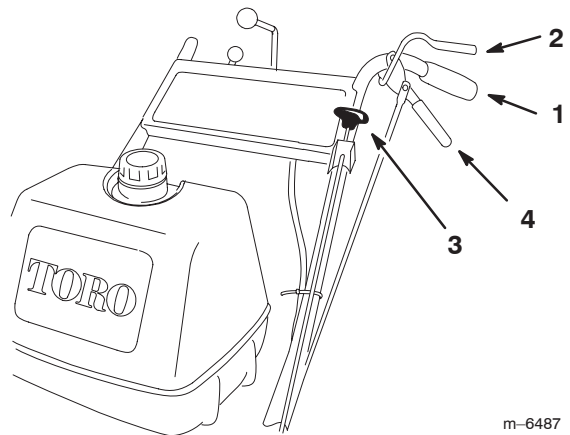

Figure 22
- To engage blades, squeeze the Operator Presence Control (OPC) levers against handle grips (Fig. 22).
1. Push the blade control knob (PTO) down to off (Fig. 22).
2. Release Operator Presence Control (OPC) levers to disengage blades (Fig. 22). This will also kill the engine.